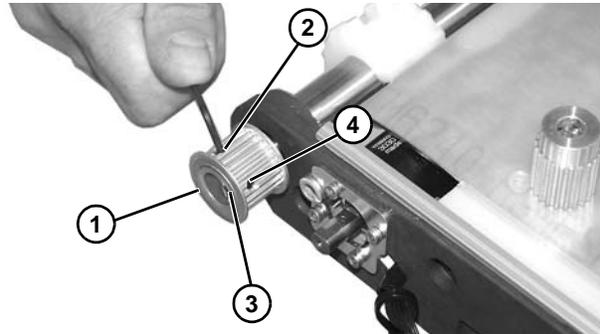

Figure 74
2. Install driven pulley (Figure 74, item 1) onto conveyor shaft until flush with spindle end. Line up longer set screw (Figure 74, item 2) on pulley over keyway (Figure 74, item 3) of shaft. Tighten set screw (Figure 74, item 2) and set screw (Figure 74, item 4) to 18 in-lb (2 Nm).